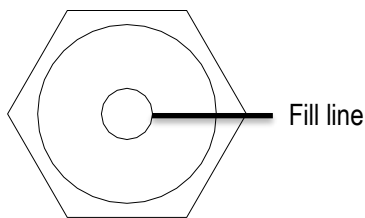

Figure 5
4. Start the unit and run for several minutes. Shut down the air compressor and recheck the oil level. If necessary, add more oil. (Figure 5)